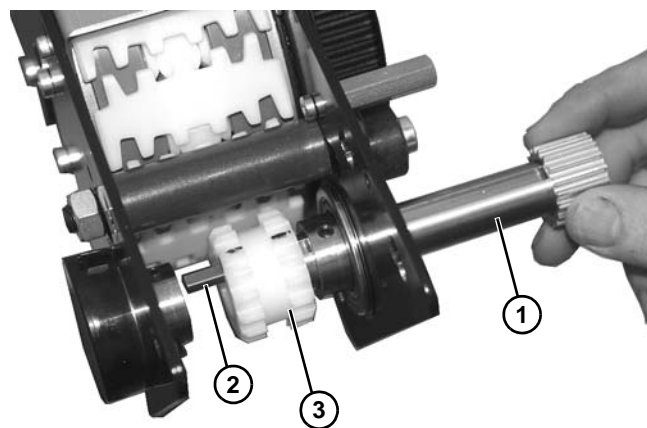

Figure 168
16. Remove drive shaft (Figure 168, item 1), making certain not to lose key (Figure 168, item 2) when removing gear (Figure 168, item 3).